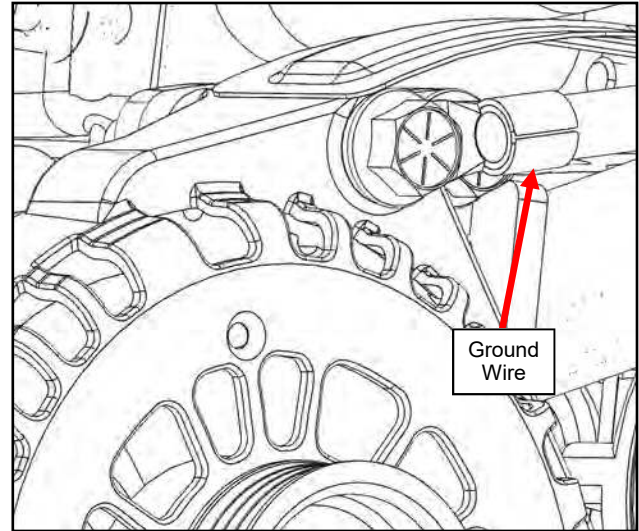

Fig. 4.1 (Install Ground Wire)
- 4.1** Install Ground Wire to front of the upper ear of the alternator using the supplied hardware, per fig 4.1. Make sure bolt goes thru the slot found on the adjustment plate. Next, tension the belt and tighten the screws that secure the alternator.